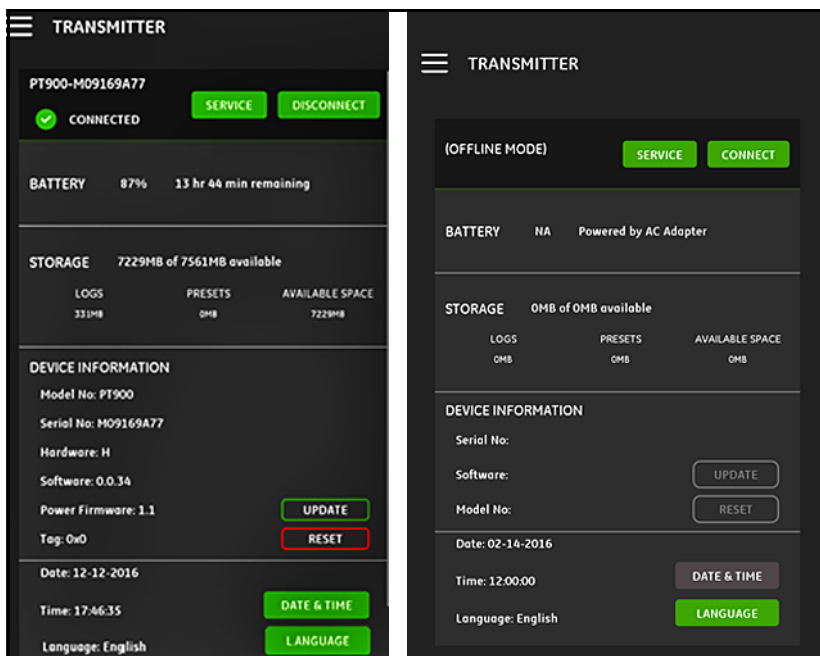

Figure 118: CONNECTED (Left) and OFFLINE (Right) Menus
Important: *Before creating a new log, be sure to synchronize the transmitter and the tablet time settings by clicking the **DATE & TIME** button in the **TRANSMITTER** menu (see *Figure 118* on page 116).*
1. Be sure the transmitter and tablet time settings are synchronized by setting the transmitter time in the **TRANSMITTER > DATE & TIME** menu (see *Figure 118 on page 116*).
If a PT900 transmitter is **CONNECTED** to the tablet APP via *Bluetooth*, the **TRANSMITTER** menu shows device information about the PT900 transmitter, the battery and the memory usage. However, if the connection is **OFFLINE**, this information is unavailable. See examples of both possibilities in *Figure 118* below.
7. Go to the **TRANSMITTER** menu (see *Figure 118* on page 116) and verify that the device information is correct.